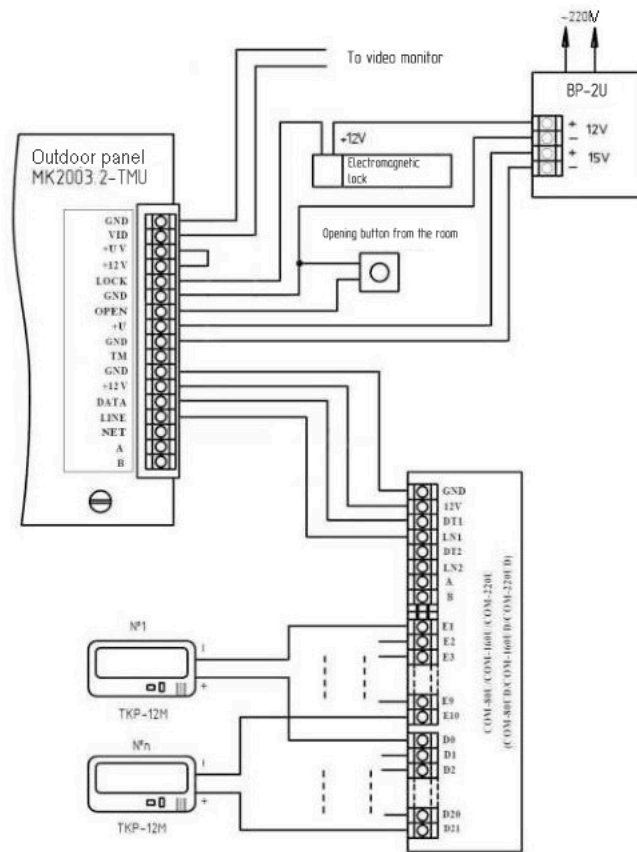

Fig. 2 Example of installation of the outdoor panel MK2003.2-TMU
6. Install the wiring. Make taps from the loops and connect the TKP of all the subscribers. (Fig. 2, 3)